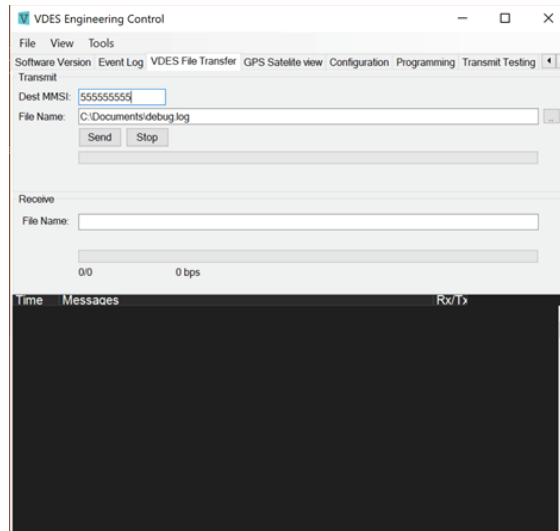

Figure 8 The destination MMSI and file to be transmitted have been configured.
16. On the PC that will receive, select the **VDES File Transfer** tab Figure 8